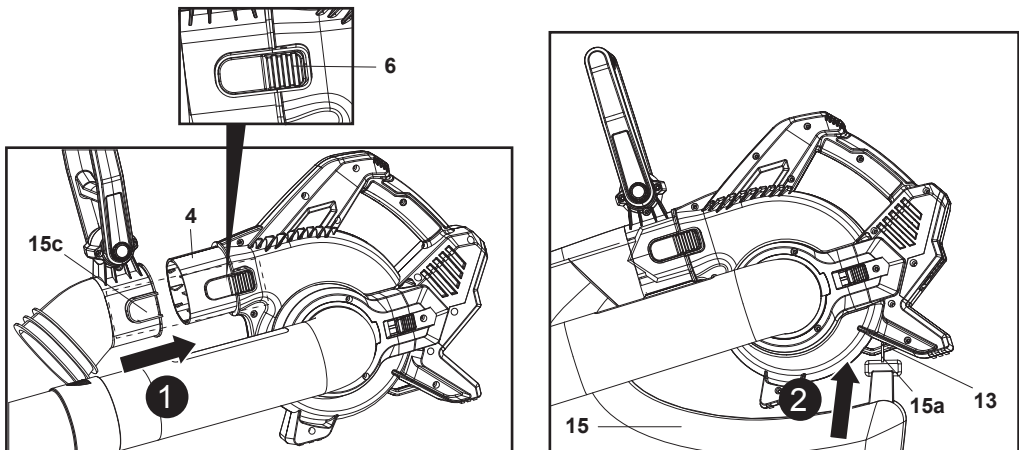

Fig. 5
5. Press the right side of the locking knob (6) and hold it in place, then insert the collection bag (15) into the collection bag port (4) all the way to the stop. Release the locking knob (6) afterward. Ensure that the locking button (6) engages in the location hole (15c) (Fig. 5, step 1).
6. Attach the securing clip (15a) to the hanging loop (13) (Fig. 5, step 2).
7. The collection bag (15) is ready for use.